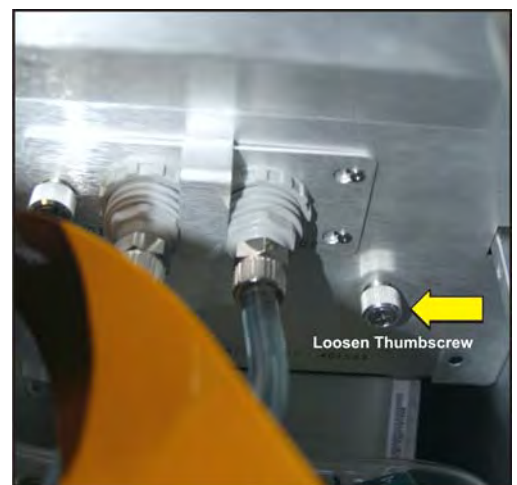

Figure 5-43 Liquid Cooling Quick Disconnects
5. Disconnect the two coolant hoses from the quick disconnects. Then loosen the thumbscrew located on the bracket next to the disconnects. **(Figure 5-43)**